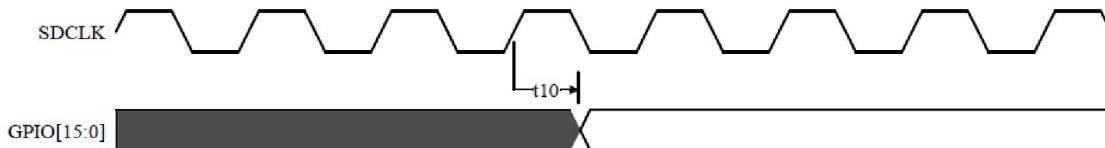

Figure 4:4: General Purpose I/O Timing Diagram
1. All outputs are measured using the load conditions shown in Figure 4:12